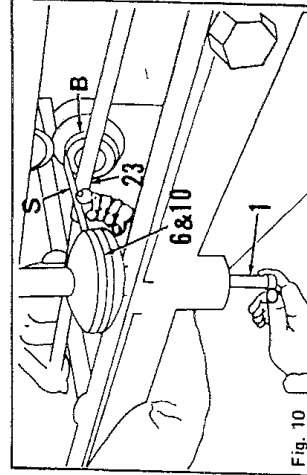

Fig. 10
7. With straightedge (S) (Fig.10) clamped between clamping discs (6) & (10), parallel straightedge with top surface of lower roll (B) by means of set screw (1). Turn high point of lever connecting rod (23) until it touches straightedge (S) to support work piece. Now, the flanging attachment is fully installed.
2. Center round blank (K) (Fig. 10) between clamping discs (6) & (10) and clamp by turning handwheel (15).